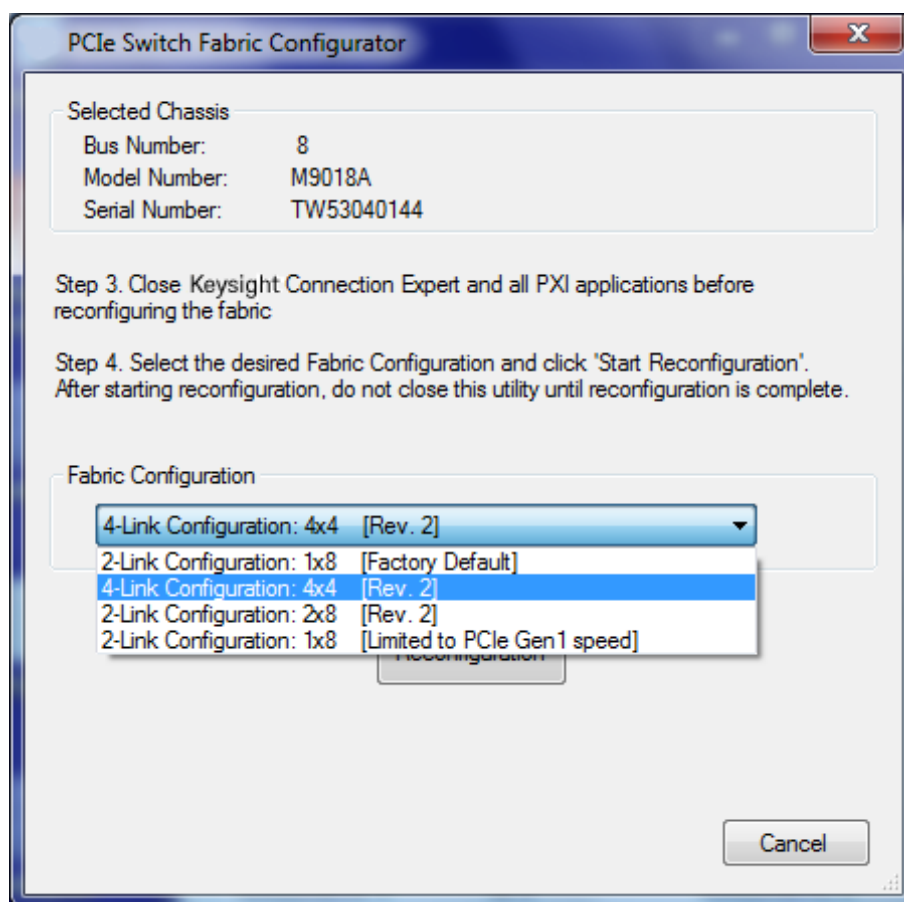

Figure 43 Fabric Configuration selection dialog
- 3 The **Fabric Configurator** selection dialog is displayed next as shown in Figure 43. To change to the 2x8 PCIe link configuration, use the Fabric Configuration pull down menu to select **2-Link Configuration: 2x8**, and then click **Start Reconfiguration**.